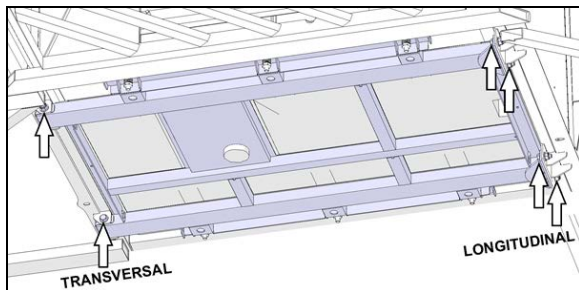

FIGURE 15: LOCATION OF MOUNTING POINTS
3. Carefully inspect fuel cradle mounting bolts, 6 locations (Figure 15).